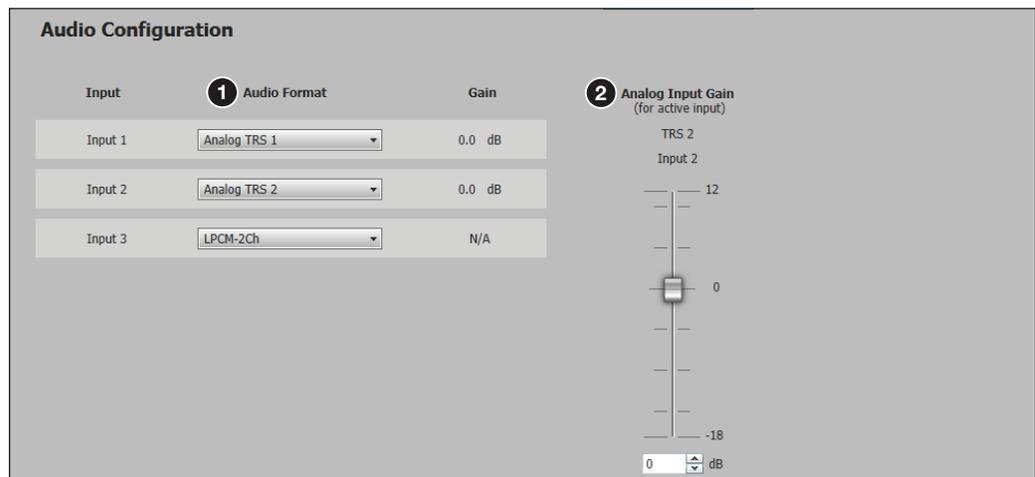

Figure 47. Audio Configuration Page
The Size and Position page (see figure 47) provides three methods of adjusting image output size and position: graphically, numerically, or automatically with Auto-Image. Click the **Size and Position** icon on the global navigation bar to open the Size and Position page (see figure 35, 4, on page 50).
On the **Audio Configuration** page (see figure 47), you can configure audio inputs and outputs.
From the **Audio Configuration** panel, select the input **Audio Format** from the drop-down lists (see figure 47, 1), then set the input gain to optimal settings.
The **Analog Input Gain** fader (see figure 47, ② on the previous page) has a gain range of -18 dB to +12 dB. Adjustments are applied in 1 dB increments. The default setting is 0 dB. The current Gain level for each input is displayed to the right of the corresponding **Audio Format** drop-down list.